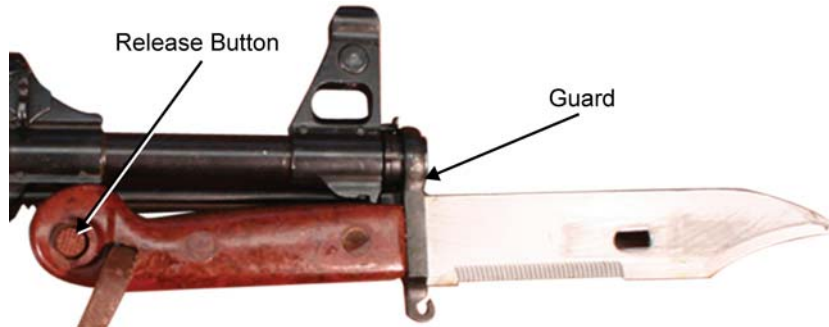

Figure 9. Bayonet Attached to the Weapon.
1. To install the bayonet, slide the guard over the thread protector or compensator and slide the butt of the bayonet over the bayonet lug under the barrel until the bayonet snaps into place on the lug. Ensure the bayonet is secure. Refer to Figure 9.
2. To remove the bayonet from the weapon, press the release button on the butt of the bayonet and slide the bayonet away from the bayonet lug and off the thread protector. Refer to Figure 9.